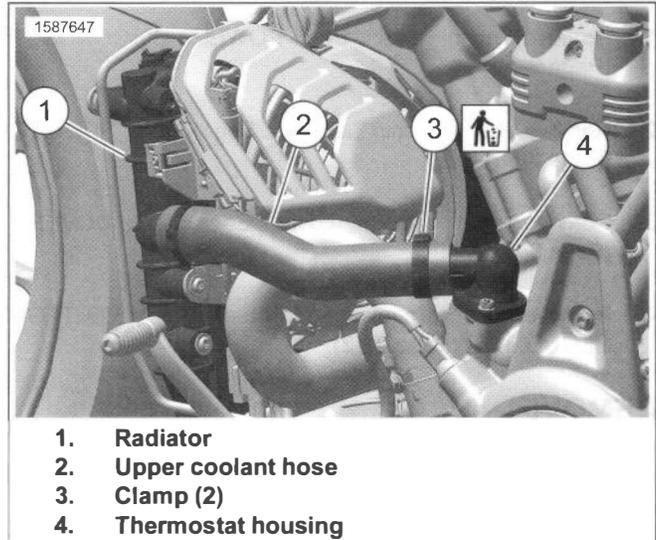
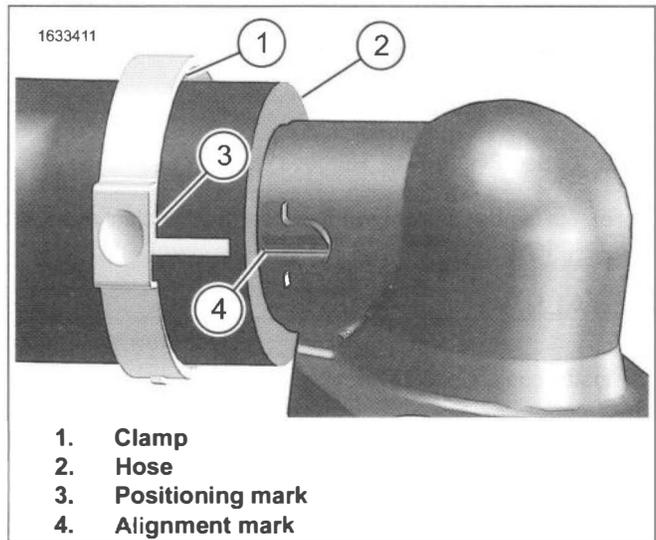

Figure 7-14. Upper Coolant Hose
Figure 7-15. Clamp Positioning
1. See Figure 7-14. Remove upper coolant hose.
- a. Remove and discard clamps (3).
- b. Remove upper coolant hose (2).
See Figure 7-15 Align positioning marks (3) with alignment marks (4). Install clamps (1) on positioning marks (3) as shown for all coolant hoses (2).
2. See Figure 7-14. Upper coolant hose install.
- a. Clean thermostat hosing outlet (4) and radiator (1) outlet.
- b. Clean inside ends of coolant hose (2).
- c. Figure 7-15 Install coolant hose, position mark (3) with alignment mark (4).
3. Align clamp with positioning mark (3) covering line as shown.
4. See Figure 7-14. Secure with new clamps (3).